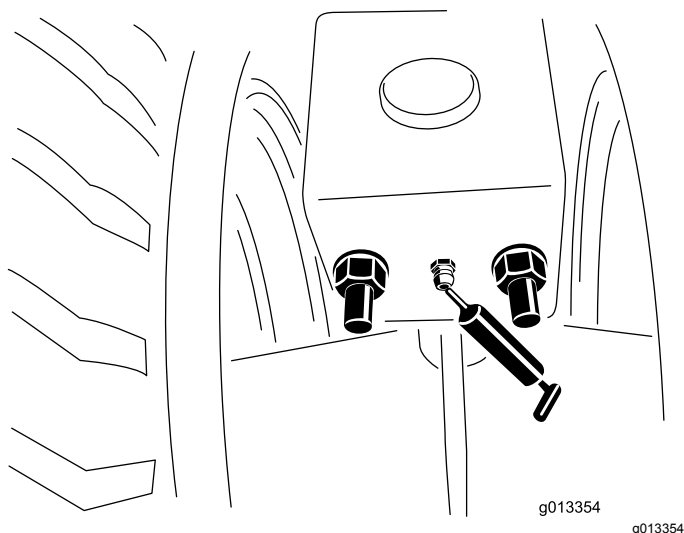

Figure 54
1. Clean the grease fittings (Figure 54).